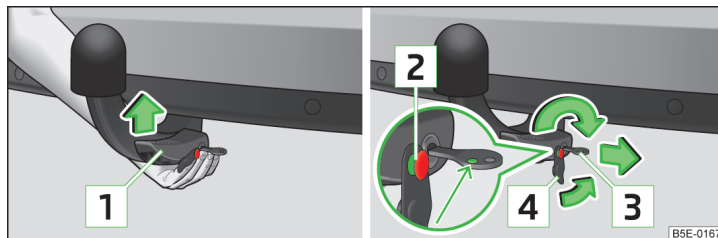

Fig. 155 Insert the ball head/lock the lock, and put the lock cover on
- › Grip the tow bar **from underneath** » Fig. 155 and insert into the mounting recess until you hear it click into place » **!**.